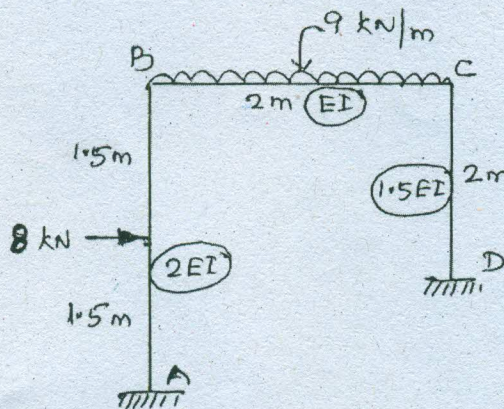

Fig. Q.14(b)
- (b) Analyze the portal frame shown in Fig. Q.14.(b) by slope deflection method and draw the bending moment diagram.